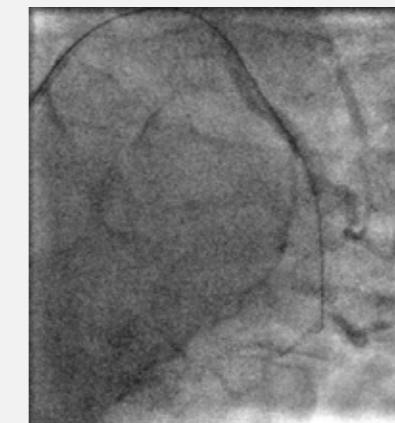

Fig. 3 CTO guidewire crossed the lesion and positioned into the distal true lumen of the circumflex
- After two attempts with two different guidewires (a polymer-jacketed guidewire and a stiff guidewire), increasing stiffness, a last one crossed the lesion and was positioned into the distal true lumen of the circumflex (Fig. 3)